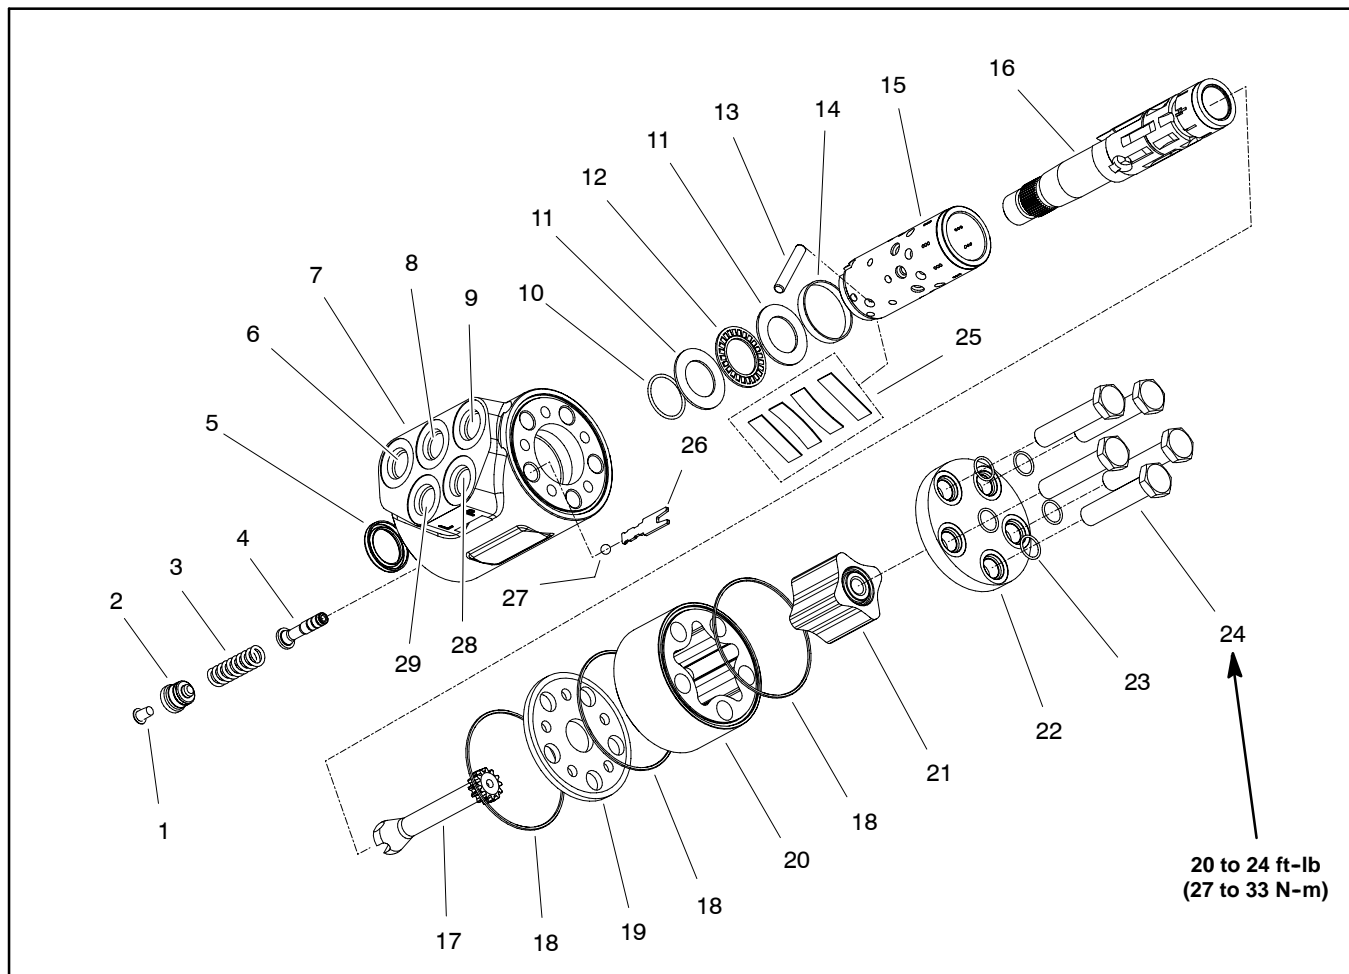

Figure 80
**NOTE:** For service of the steering control valve shown in Figure 80, see the Sauer/Danfoss Steering Unit Type OSPM Service Manual at the end of this chapter.